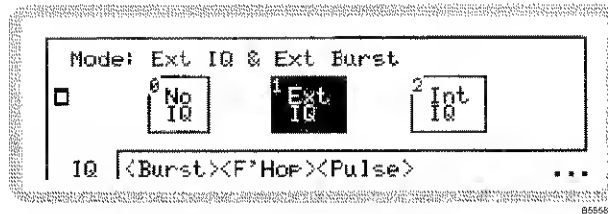

Fig. 3-62 Ext IQ modulation selected
- 1 Configure the modulation mode for external IQ modulation by pressing **IQ MOD** to see the IQ modulation mode screen and touching **Ext IQ** (Fig. 3-62). This screen's appearance may differ, depending on the options fitted to your instrument.